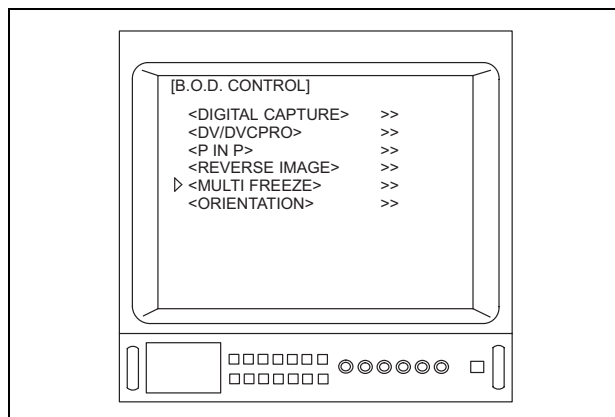

Figure 5.127
4. Depress the menu switches " or ", or the " key on the keyboard to move the arrow " to "MULTI FREEZE" (see Figure 5.127).
Depending upon which B.O.D.s are installed in the OTV-S7V, the menu shown in Figure 5.127 may appear different from that displayed on the video monitor.
4. Depress the menu switches “◀” or “▶”, or the “↑/↓/←/→” key on the keyboard to move the arrow “▷” to “MULTI FREEZE” (see Figure 5.127).